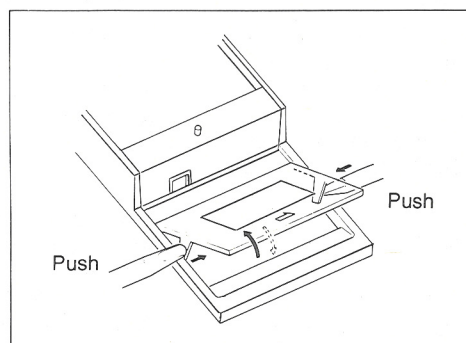

FIG. 2
3. Carefully push stops of cassette cover located on both sides, as shown in Fig. 2. Then cassette cover can now be removed from cassette deck panel.